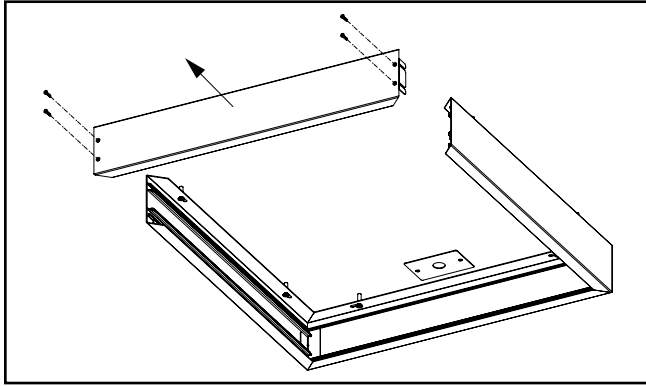

Figure 6.
- A6. Unscrew and remove the type “B” rail that is not attached to the surface, as well as the L-brackets, and retain for reuse. (Figure 6.)